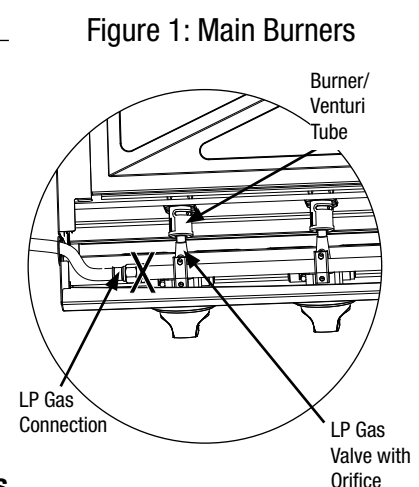

Figure 1: Main Burners
- Please refer to diagram for proper installation (Figures 1 and 2).
- Spoon several drops of solution, or use a squirt bottle, at all "X" locations (Figures 1, 2 and 4).